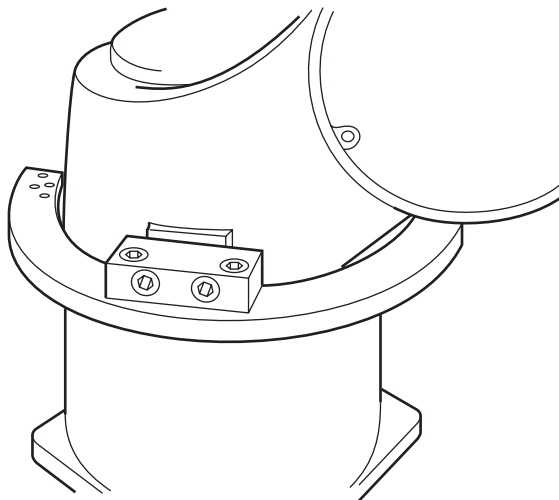

Figure 1-10. Assembly 2 Positioned on Joint 1
5. Temporarily secure the other assembly to the opposite side of Joint 1. See Figure 1-10.